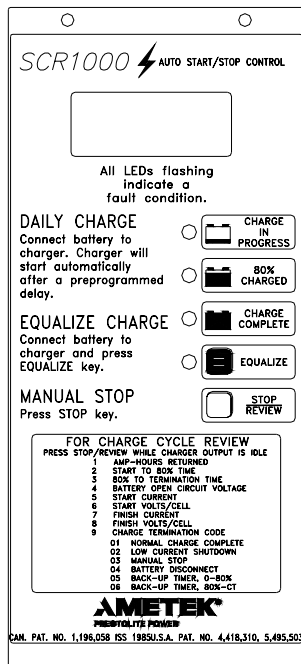

Figure 6-1
**Status Display LEDs** — The "Charge In Progress" LED (Amber) is illuminated whenever the charger is flowing current to the battery. There are four status LEDs provided to indicate the present operating status of the charger and battery (see Figure 6-1). A lamp test feature is provided.